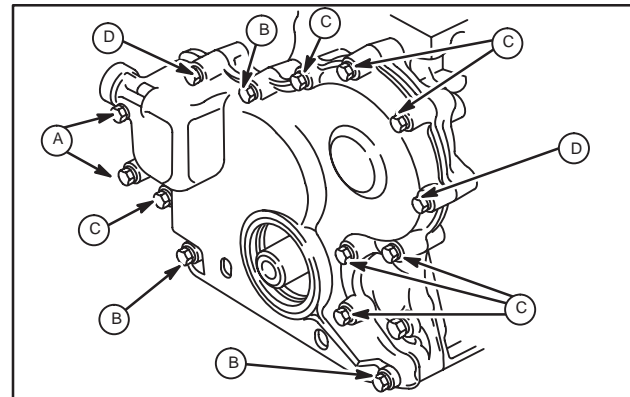

Fig. 18 – Installing Timing Gear Cover
6. Install timing gear cover with new gasket. Note position, length and number of screws as shown, Fig. 18.